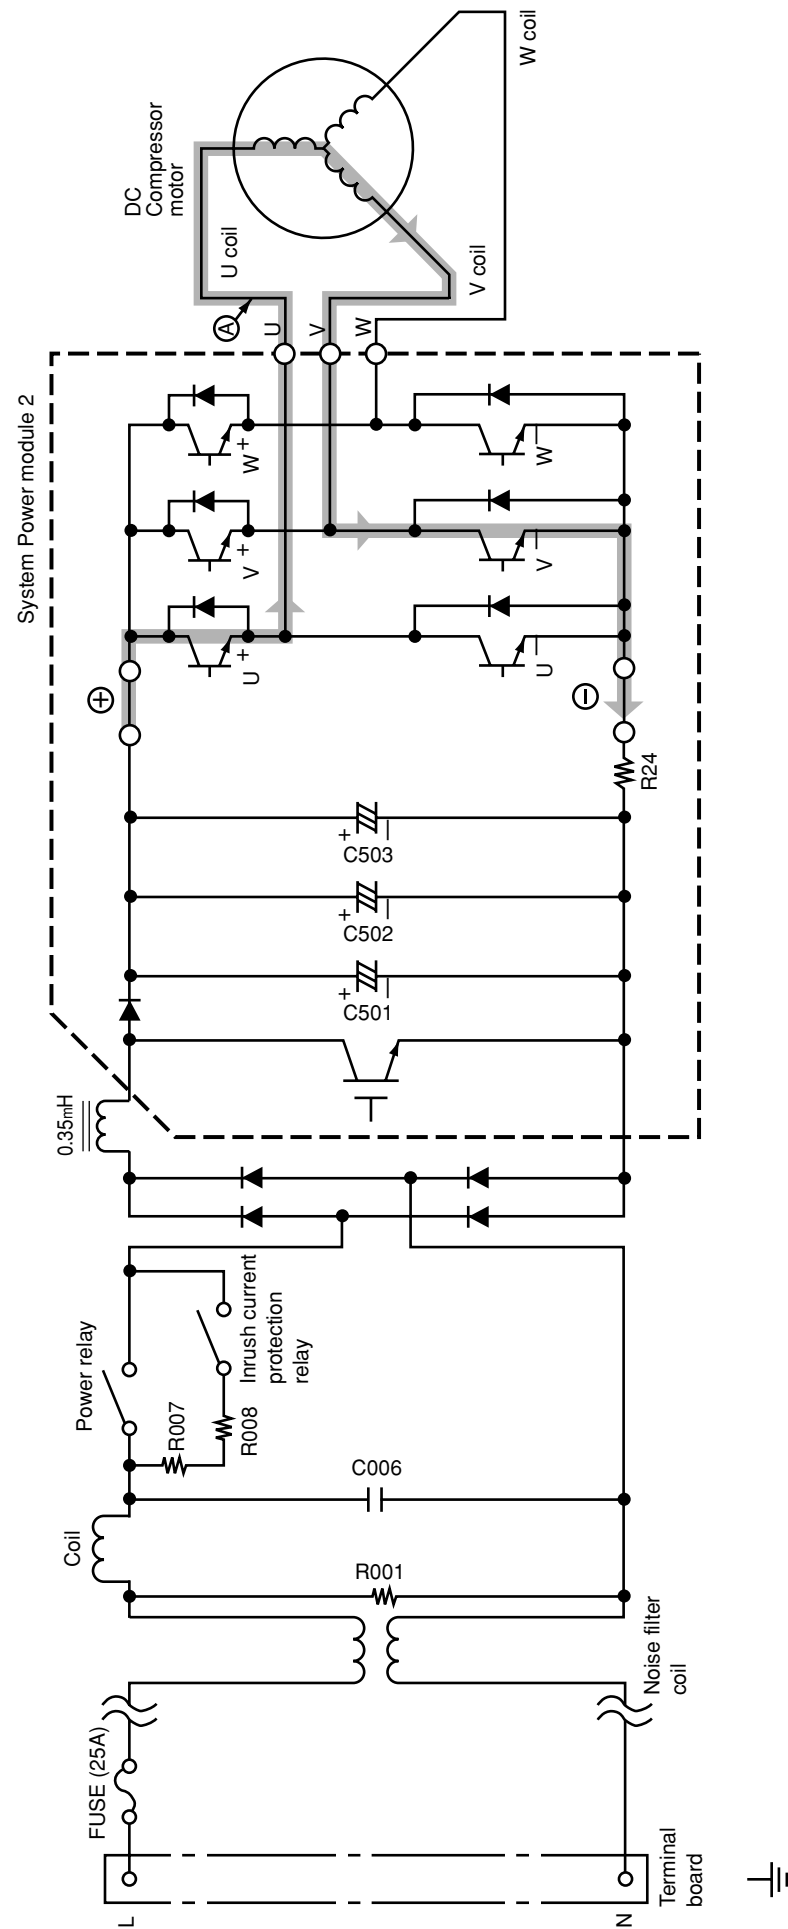
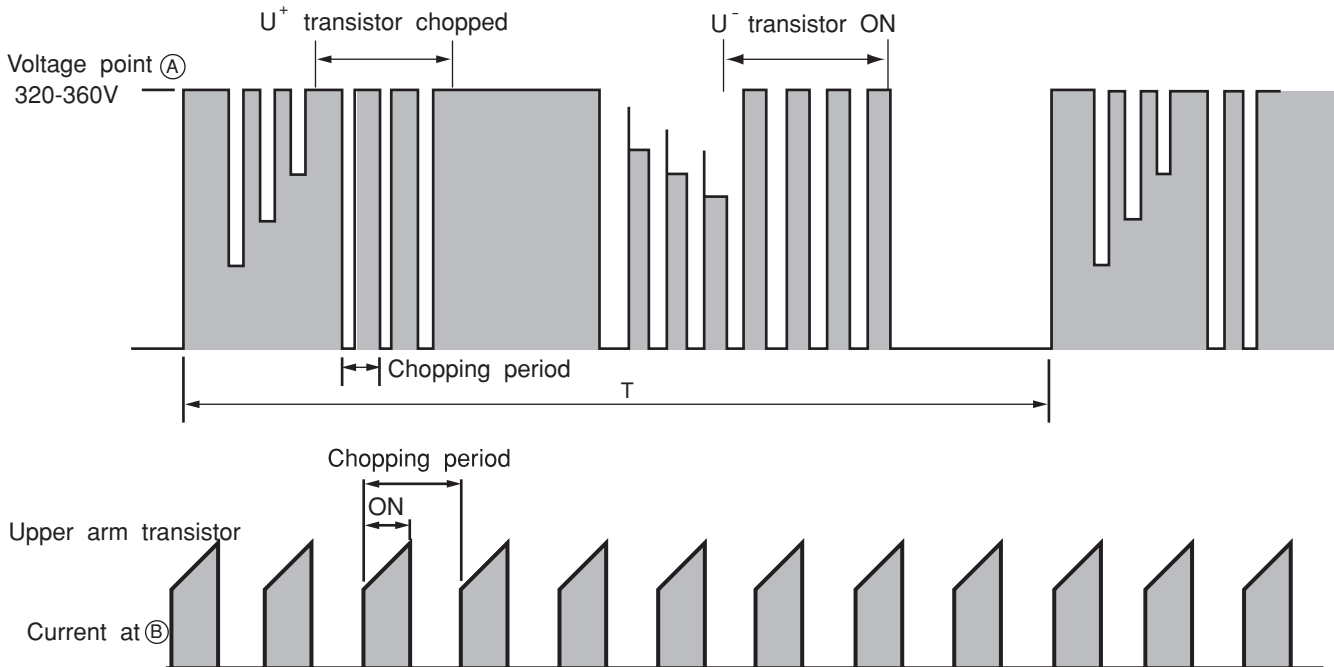

Fig. 3-1 Power module circuit (U⁺ is ON, V⁻ is ON)
Fig. 3-3 Voltage waveform at each point
- Fig. 3-1 shows the system power module and its peripheral circuit. (Current ACT module and power module are combined into one unit.) The three transistors on the positive ⊕ side are called the upper arm, and the three transistors on the negative ⊖ side, the lower arm.
※ At point E: U⁺ is ON, V⁻ is ON (circuit in Fig. 3-1)
- Fig. 3-3 shows voltage / current waveform at each point shown in Figs. 3-1 and 3-4. First half of upper arm is chopper, second half is ON, and first half of lower arm is chopper, second half is ON.
- When power is supplied U⁺ → U⁻, because of that U⁺ is chopped, current flows as shown below; ②
- (1) When U⁺ transistor is ON: U⁺ transistor → U coil → V coil → V⁻ transistor → DC current detection resistor → Point ② (Fig. 3-1)
- Since current flows at point ② only when U⁺ transistor and V⁻ transistor is ON, the current waveform at point ② becomes intermittent waveform as shown in Fig. 3-3. Since current at point ② is approximately proportional to the input current of the air conditioner, input current is controlled by using DC current (I_d) detection resistor.